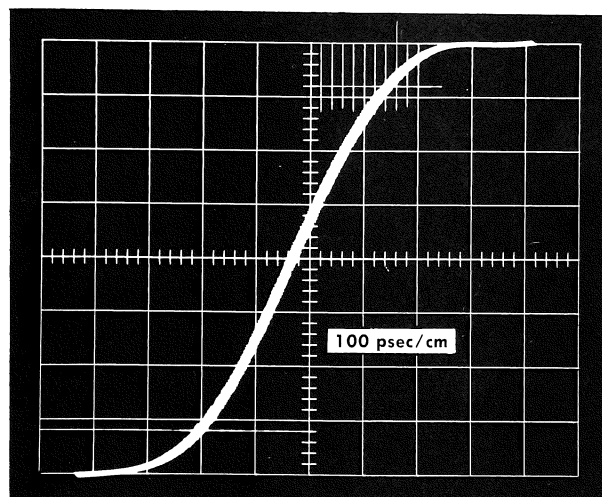

Fig. 5-5. Correctly adjusted system for 0.35-nsec risetime. Graticule specially scribed for this picture.
- Check the system risetime as shown in Fig. 5-5.
Generator has not been modified (Replacement Kit 050-072), the Delayed Pulse risetime is between 100 and 150 psec. The system risetime when operating properly will then be 385 to 390 psec. See "Pulse Risetime Measurements" in Section 2 of this manual. If using a Type 661 Oscilloscope with a serial number 270 and above, or if the Delayed Pulse Generator has been modified, the Delayed Pulse risetime is 50 psec or less. The system risetime when operating properly will then be 350 psec, as shown in Fig. 5-5.